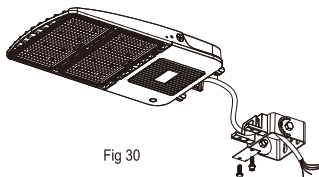

Fig 30
Step 1 .Pass the lamp input wire through the Type D bracket, as shown in Figure 30